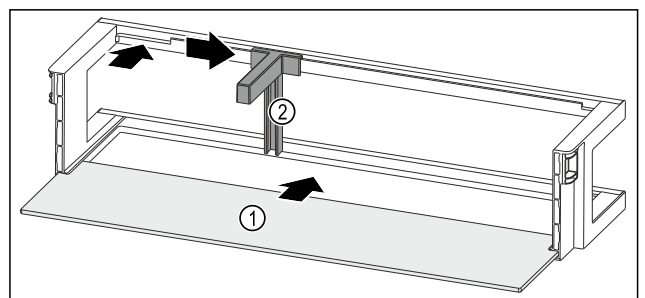

Fig. 92 Door rack with shelf
- ▶ Push the shelf Fig. 92 (1) into the side recesses.
- ▶ Insert the bottle holder Fig. 92 (2) in the recess.
- ▶ Push the bottle holder Fig. 92 (2) to the desired position to the side.